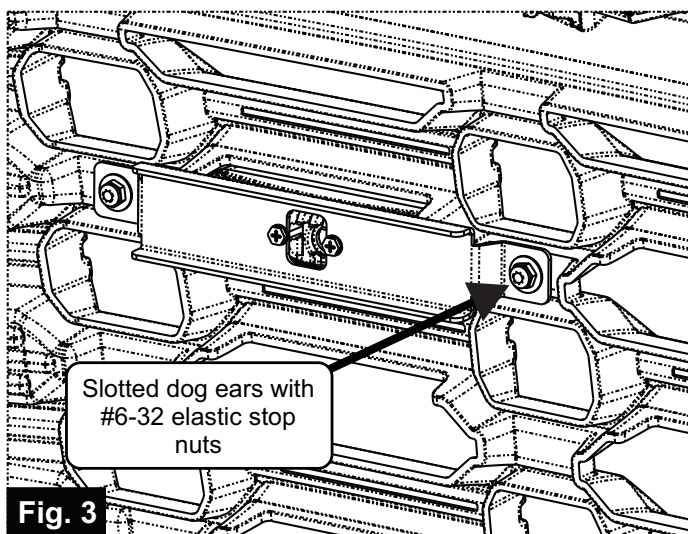

Fig. 3
4. Place the lighthouse and bracket assembly into your desired opening and secure it with a #6-32 X 1/2 screw, #6 washer, and 6-32 nut (see figures 3 and 4). Removal of the front vehicle fascia or upper trim piece will be necessary.